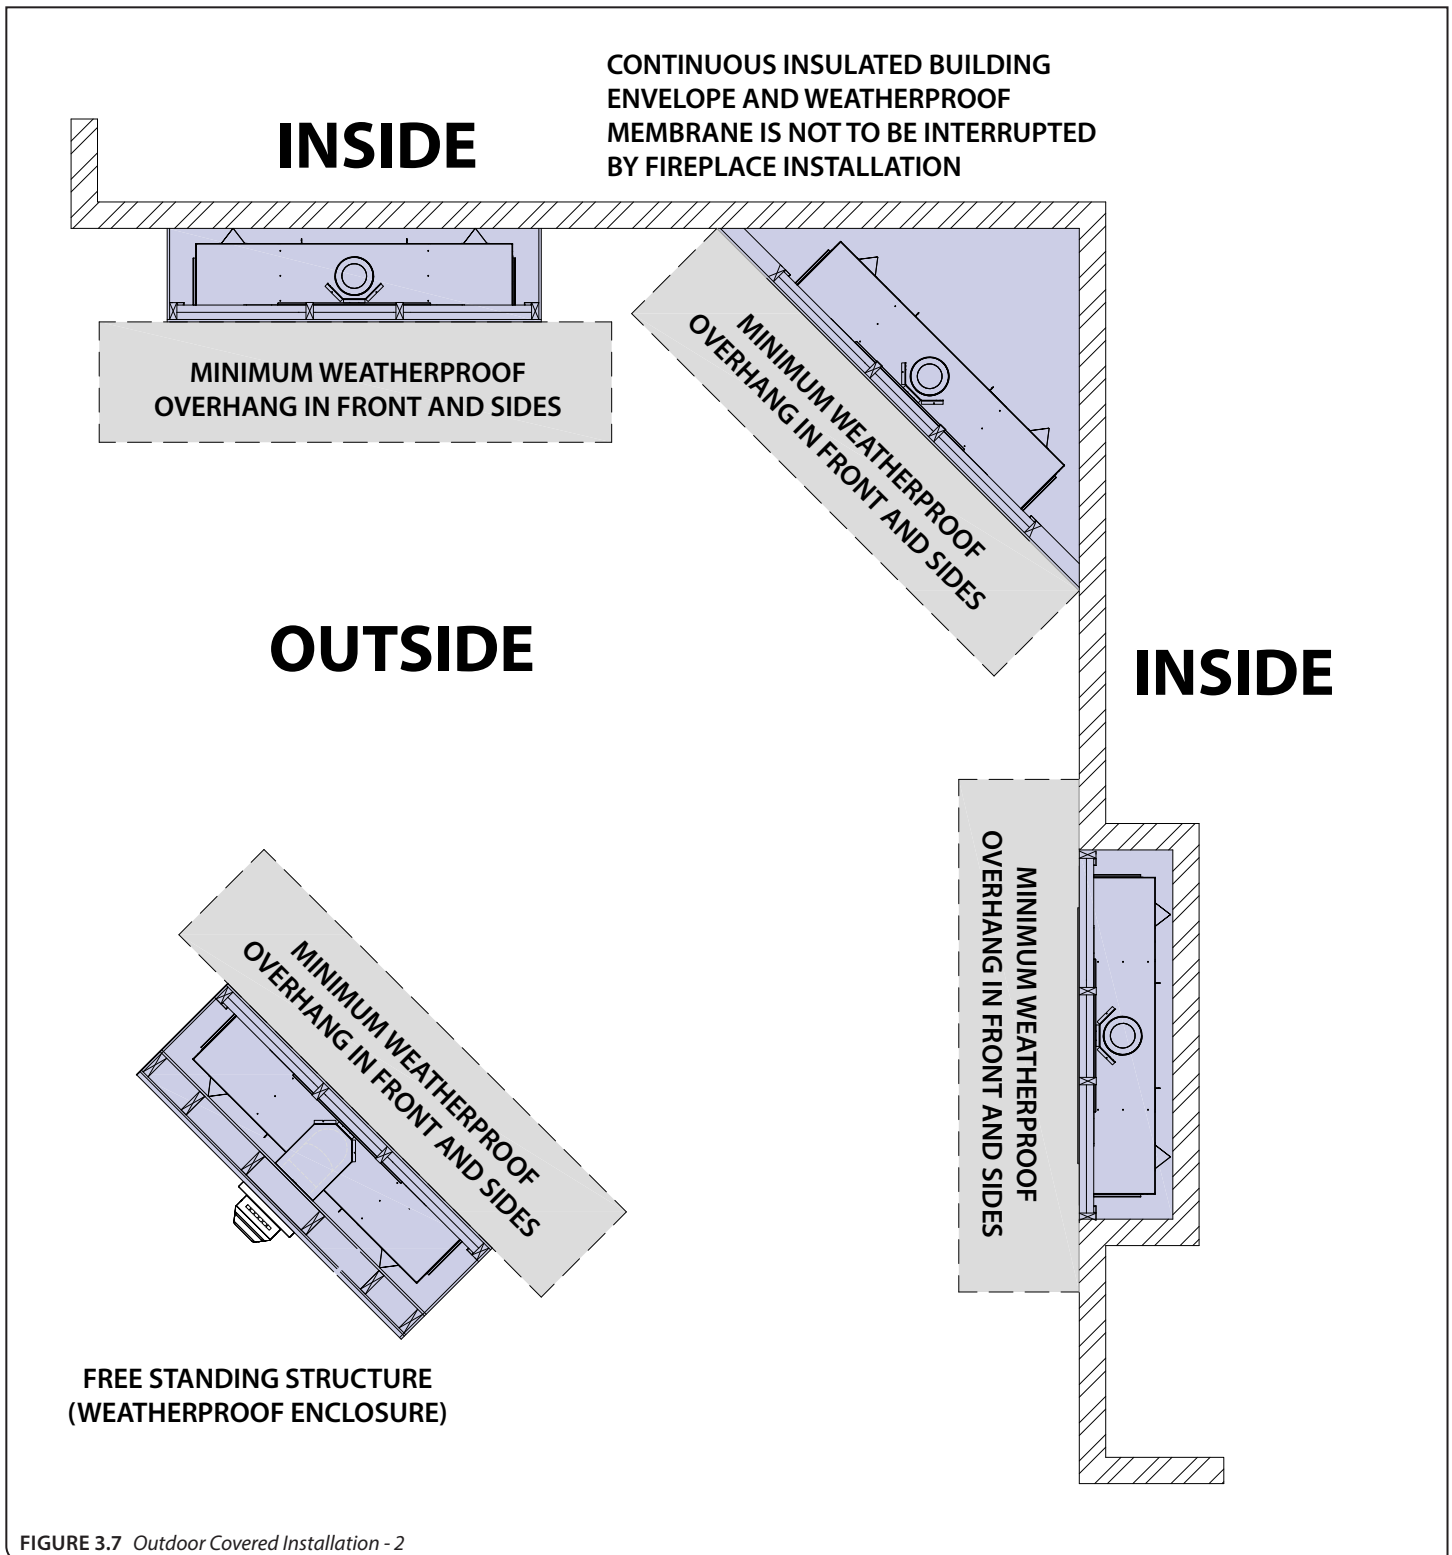

FIGURE 3.7 *Outdoor Covered Installation - 2*
- The continuous insulated building envelope and weatherproof membrane are not to be interrupted by fireplace installation. See **FIGURE 3.7** on the following page.